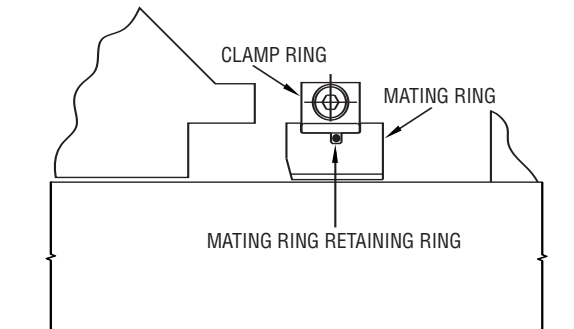

FIGURE 6
6. The completed mating ring assembly should now look like Figure 6.